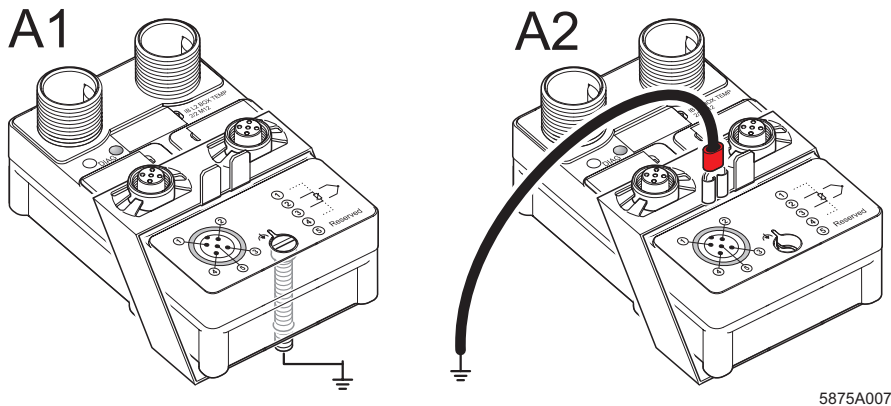
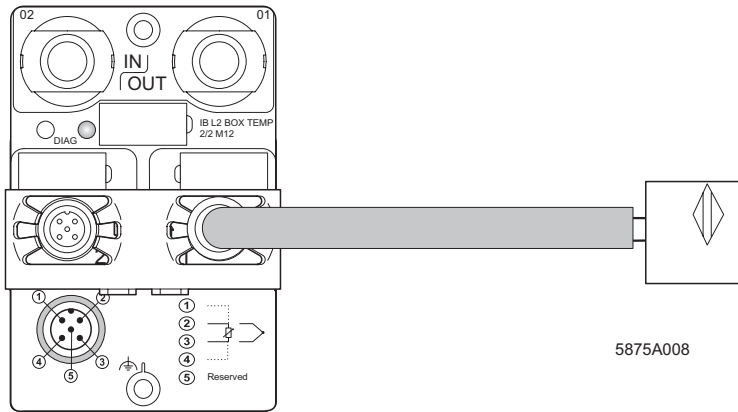

Figure 7 Installing the shield plate
Figure 8 Grounding signal cables using a shield plate
The grounding of the shield plate is shown in Figure 7. Shielding signal cables with a shield plate is shown in Figure 8.
- Install the module onto a grounded mounting plate. The shield plate is automatically grounded (Figure 7, A1).
- If it is not possible to fasten the module on a grounded mounting plate, connect the shield plate with a grounding point by means of a separate cable (Figure 7, A2). Use a cable lug to connect the cable with the shield plate.